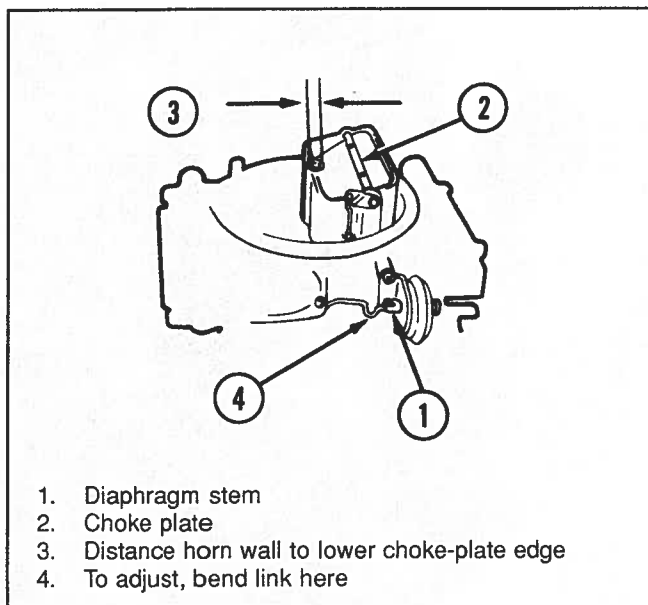

Figure 7-107. Vacuum Kick Adjustment
6. To adjust, bend link as shown (Figure 7-107).